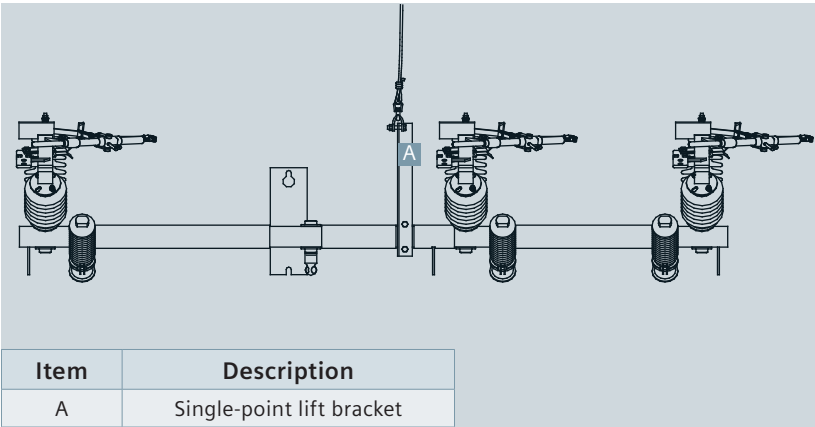

Figure 3: Single-point lift bracket
3. Using the single-point lift bracket, lift the air switch approximately 4' (1.2 m) off of the ground (Refer to Figure 3: Single-point lift bracket)